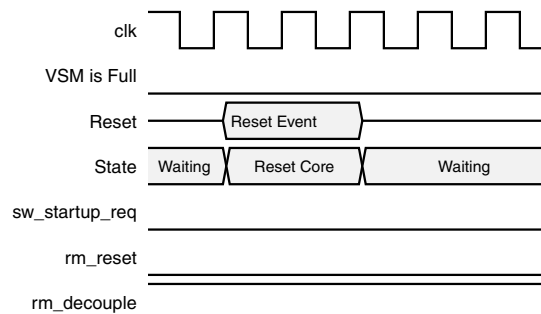

Figure 3-17: **`vsm_<name>_rm_decouple` during a core reset while the Virtual Socket Manager is empty**
1. If the Virtual Socket was empty before reset, `vsm_<name>_rm_decouple` will assert during reset. See Figure 3-17.
Figure 3-17 shows an empty Virtual Socket Manager (`vsm_<name>_rm_decouple = 1`) during a core reset.